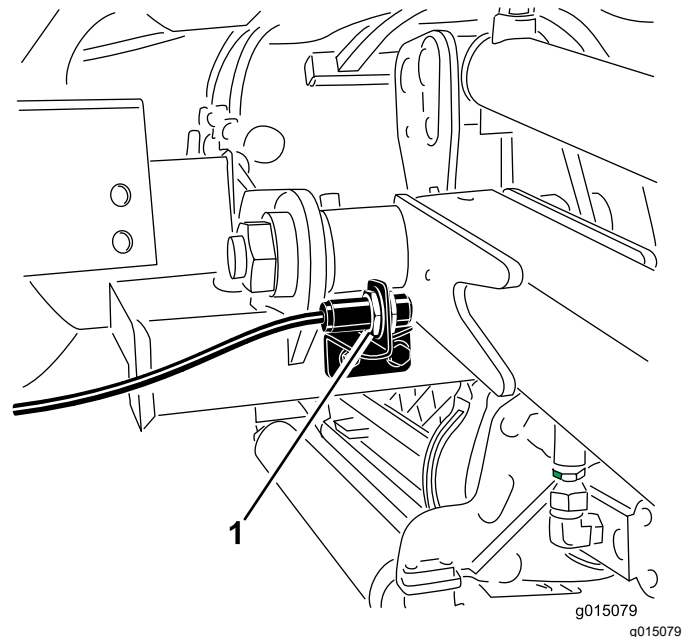

Figure 61
2. The lift-arm switch is located behind the front right lift arm (Figure 61).
3. Loosen the switch mounting screws (Figure 61) and move the switch up to increase the lift-arm